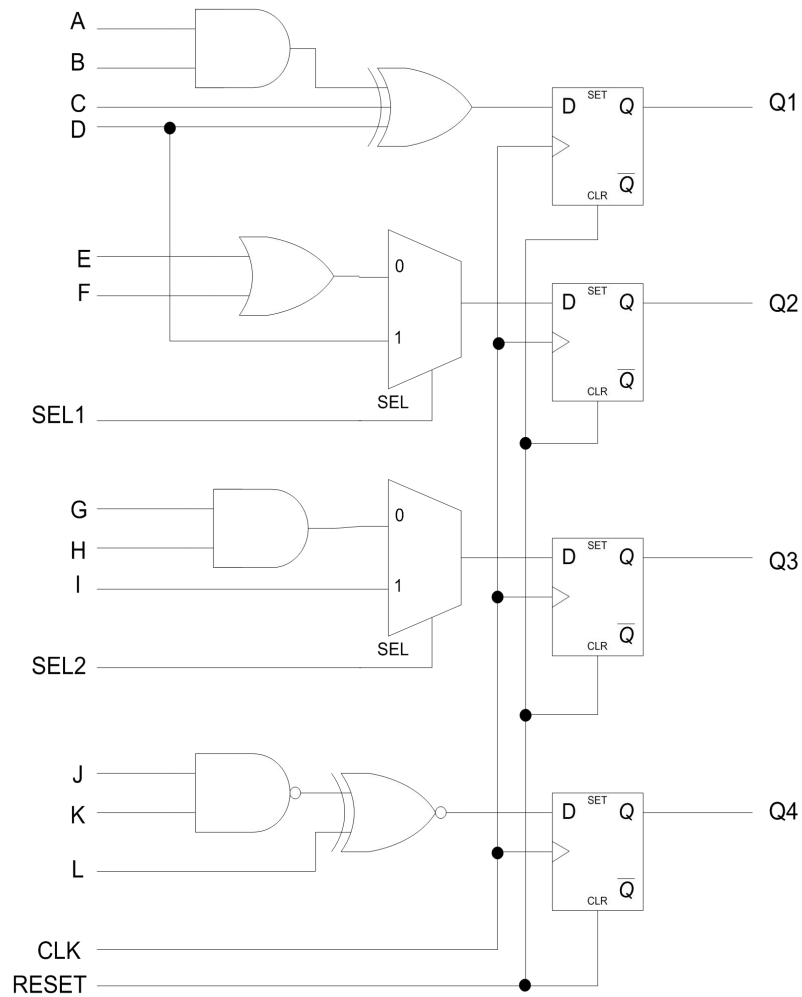

Figure Q2
- 2 Write Verilog code for the circuit shown in Figure Q2. As indicated in the figure, **15** assume positive edge triggered flip-flops, and an active-HIGH asynchronous reset.